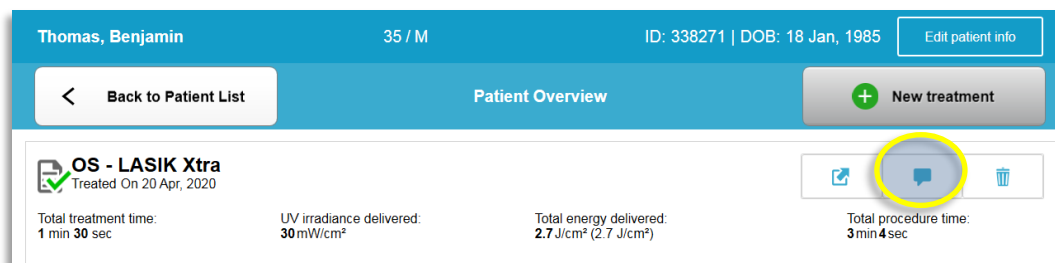

Figure 3-37. Comments Icon
- o Press the message icon as shown in Figure 3-37 to enter comments about the patient's treatment.